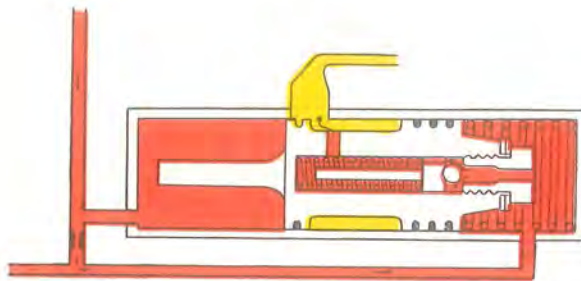

Fig. 6-38. Control valve, maximum pressure
Should the pump flow through the outlet be stopped, for example, because the front wheel turning is blocked, the pressure in the delivery line (1) will rise and the pressure difference between both ends of the control valve will be equalized. This will cause the spring to be moved to the left, the connection with the return channel to be closed and the pressure to rise even more. At about 75 kg/cm² (1066 lb/ft.in.) the spring pressure on the safety valve (6) is overcome, that is, the inner part of the control valve, and oil can then pass out to the return channel (4), see Fig. 6-38. The pressure on the right-hand side of the piston will then drop and the entire control valve will be moved to the right so that the connection with the return channel opens. When the pressure drops to its normal value, the safety valve closes and the control valve returns to its normal position.